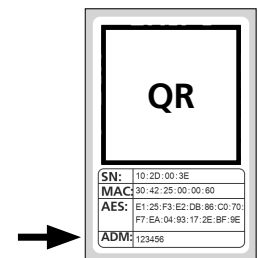

Fig. 8
**! Note:** The randomly generated administrator code can be found on the enclosed QR code sticker under "ADM" (Fig. 8). The administrator code can be changed at any time at a later date. Refer to the master operating instructions on our website for an explanation on this subject (see link on the title page).